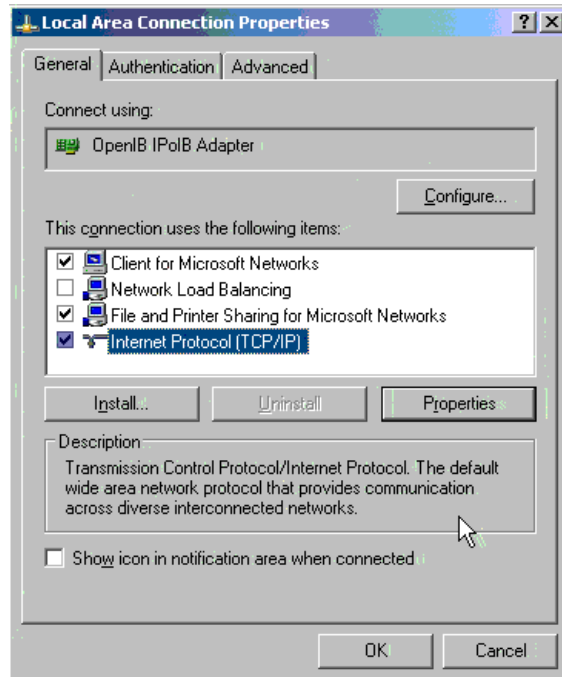

Figure 4-50 Local Area Connection Properties
6. Set an IP address as you would with any Ethernet adapter and save your settings. See Figure 4-50.